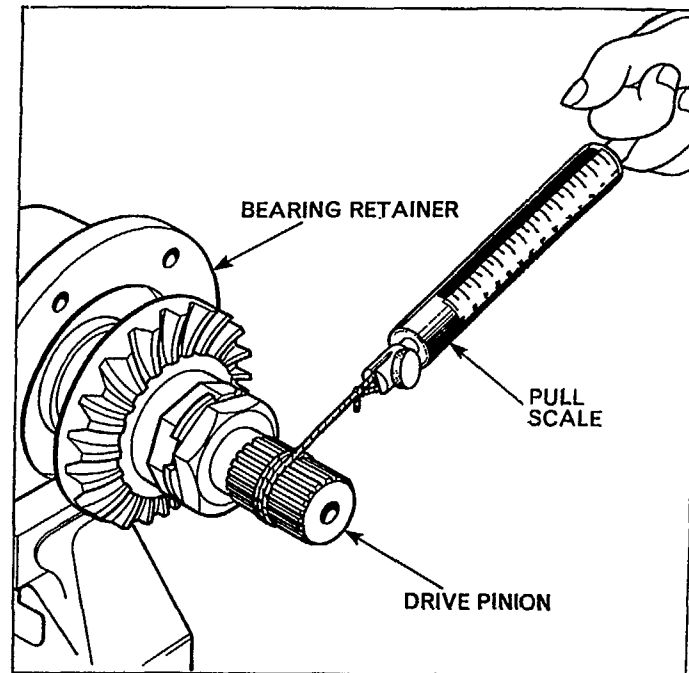

Figure 31
4. Using Tool No. T4094 or N-4634-A, tighten the inner nut to the specified pre-load. Use Tool No. T4062 with adaptor T4062-2A, to check the pre-load, Figure 30. If this tool is not available, a pull scale used together with a piece of cord wrapped around the splines of the pinion shaft, Figure 31, can be used to give the specified pull. (See Specifications Section, Chapter 3.)